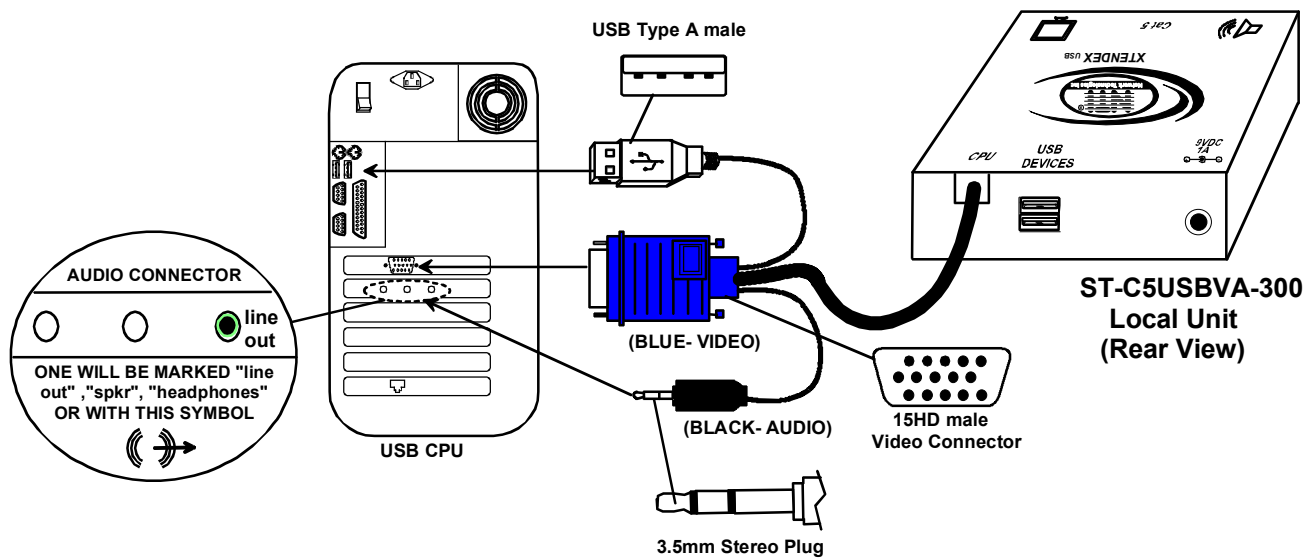

Figure 2- Local unit with audio support connects to CPU
- c) If the Local Unit has Audio support (ST-C5USBVA-300 only), connect the black 3.5mm stereo plug into the "line out", "speaker", or "headphones" jack on the back of the CPU. (See Fig. 2)